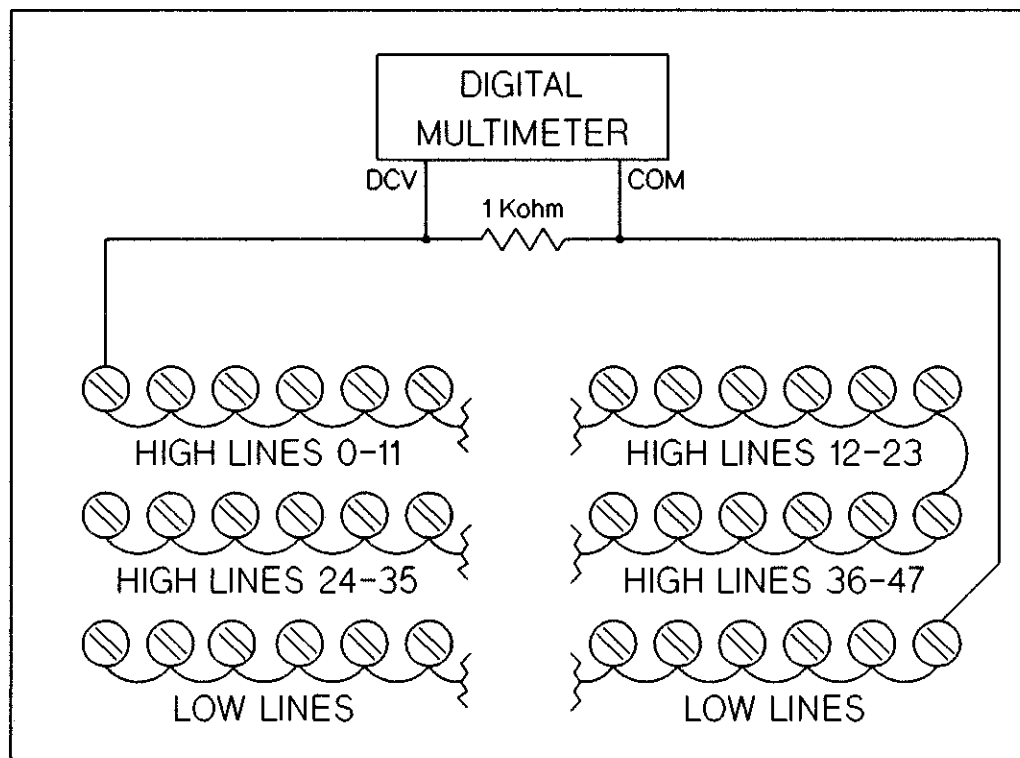

Figure 10-26 HP 44712A DC Offset Test Set-Up
1. Perform the Set-Up Procedure given in Section 10-40. The DC Offset test set-up is shown in Figure 10-26.